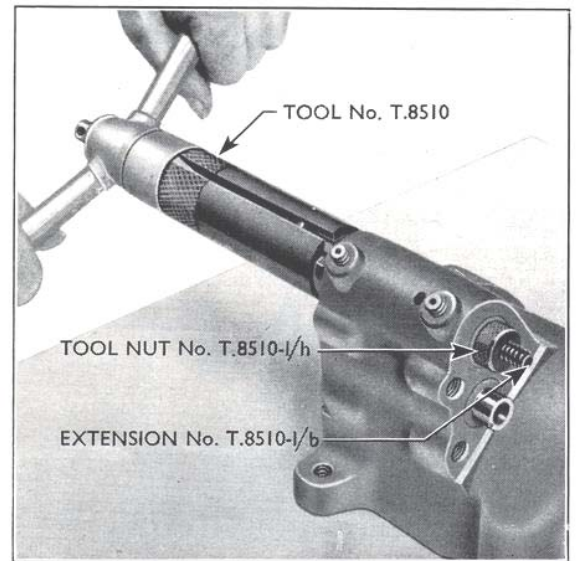

Fig. 22
10. Attach the short threaded end of extension T.8510-1/b to main tool T.8510 and pass the extension through the control valve bush so that the main tool remains at the front end of the cylinder. Screw the special nut T.8150-1/h onto the rear threaded end of the extension until it locates squarely on the rear face of the control valve bush, with the small taper on the front face of the nut located within the bush to centralise the tool. Operate the wing nut of the tool and withdraw the bush (see Fig. 22). Unscrew the special nut and remove the bush from the extension.